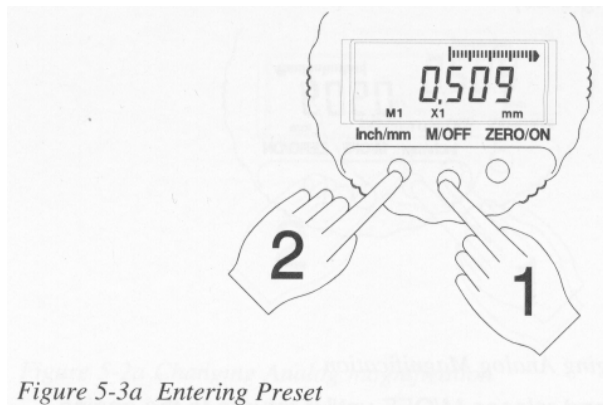

Figure 5-3a Entering Preset
- 1) Press and hold M/OFF(1) - then depress and release inch/mm(2) until the M1 icon is displayed. (Fig.5-3a).